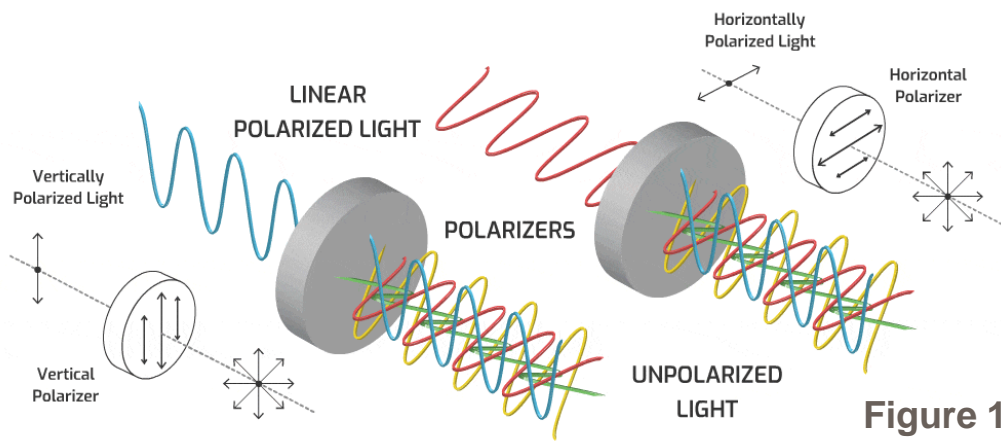

Figure 1
- Dichroic materials (polarizers/analyzers) selectively *absorb* components of E -field vibrations along a given direction and largely *transmit* the components of the E -field vibration perpendicular to the absorption direction. Figure 1.